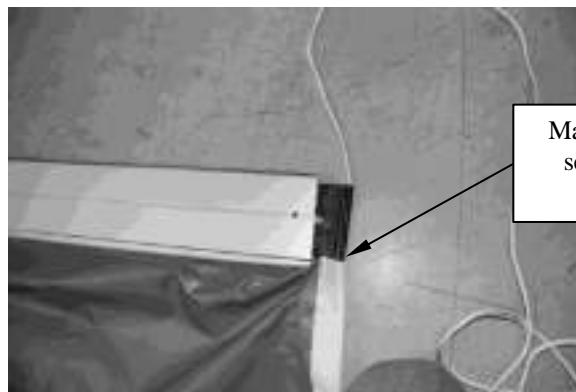

Fig 13
2. The long ropes at the end of the fabric should be fed through the black sliders attached to the leading edge. Push the slider down the rope to the cover fabric, so that it meets the webbing of the fabric before securing in place. (Fig 13)